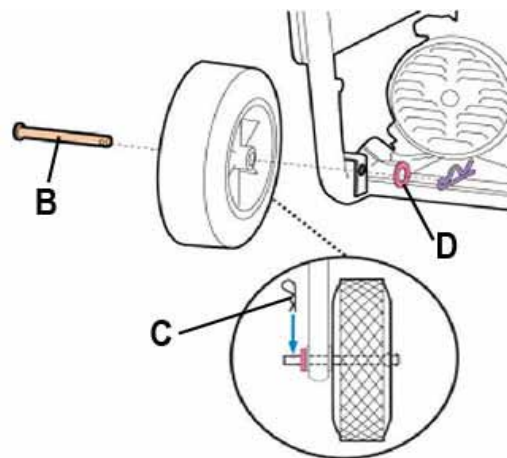

Figure 2-1: Wheel & Feet Assembly
- Refer to Figure 2-1 and install the Wheels as follows: